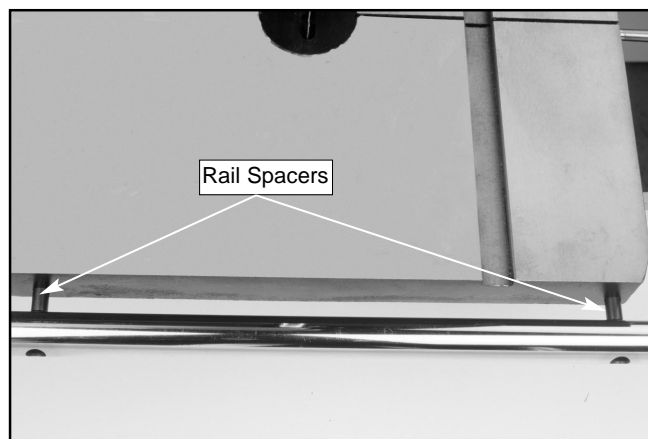

Figure 7. Rail attachment points.
The last item to install is the rip fence (assembled around #114). Notice that the front and back edges of the table have four (4) counterbored and threaded holes. These holes accept the spacers (#86) and cap screws (#88) that attach the fence rails to the table (#87). See **Figure 7**.